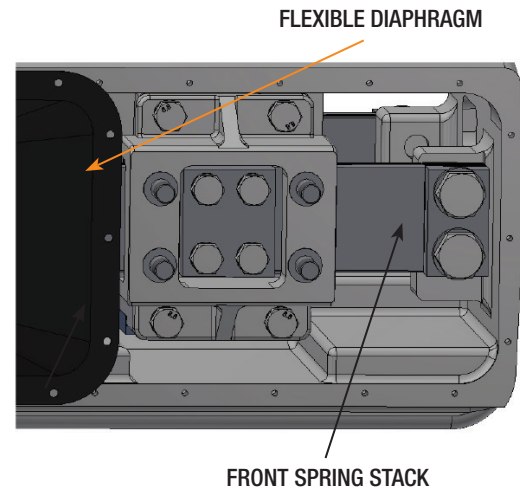

Figure 12
1. Remove diaphragm clamp and rubber diaphragm from front of unit—**Parts 7 and 8 in Parts List (See Figure 12).**